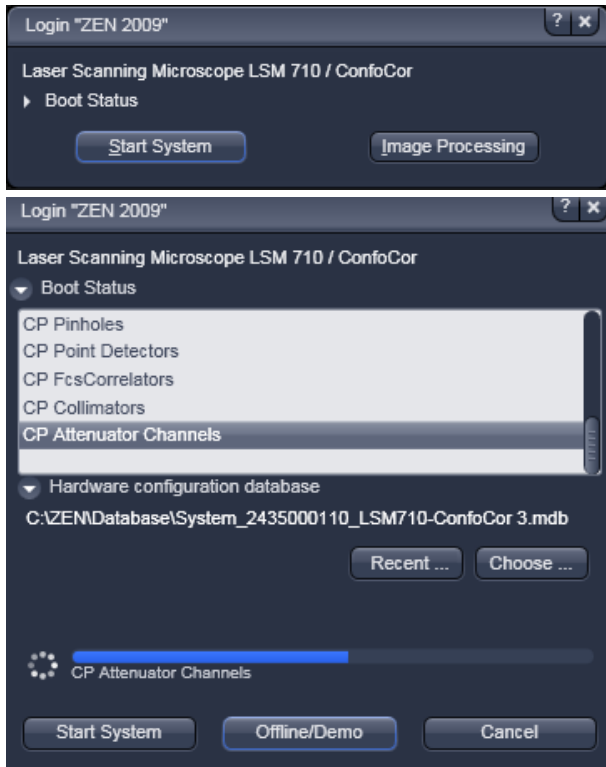

Fig. 9-1 Starting the ZEN software
- The "Login Zeiss Imaging" switchboard will appear (Fig. 9-1).